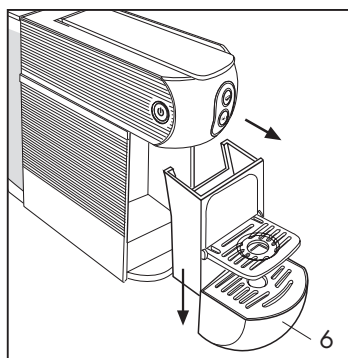

Fig. 12
To perform this operation, take out the drip tray (6) **(Fig. 12)** and separate it from the capsule container by pulling